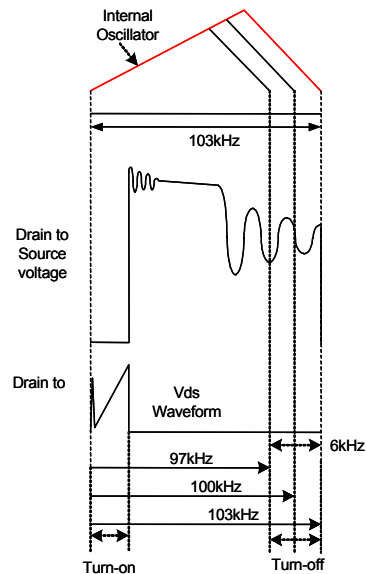

Figure 11. Frequency Modulation Waveform for FSDH321
7. Frequency Modulation : EMI reduction can be accomplished by modulating the switching frequency of a switched power supply. Frequency modulation can reduce EMI by spreading the energy over a wider frequency range than the band width measured by the EMI test equipment. The amount of EMI reduction is directly related to the depth of the reference frequency. As can be seen in Figure 11, the frequency changes from 97KHz to 100KHz (from 48.5KHz to 51.5KHz for FSDL321) in 4mS for the FSDH321. Frequency modulation allows the use of a cost effective inductor instead of an AC input mode choke to satisfy the requirements of world wide EMI limits.